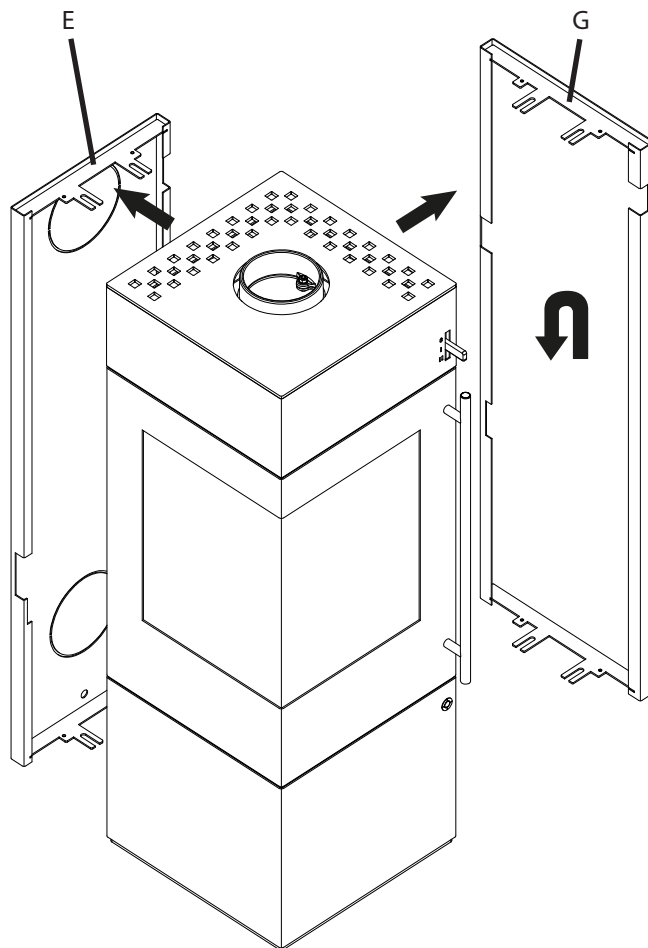

Fig.3
- Remove and swap back panel (E) and side panel (G) (see Fig.3+4).